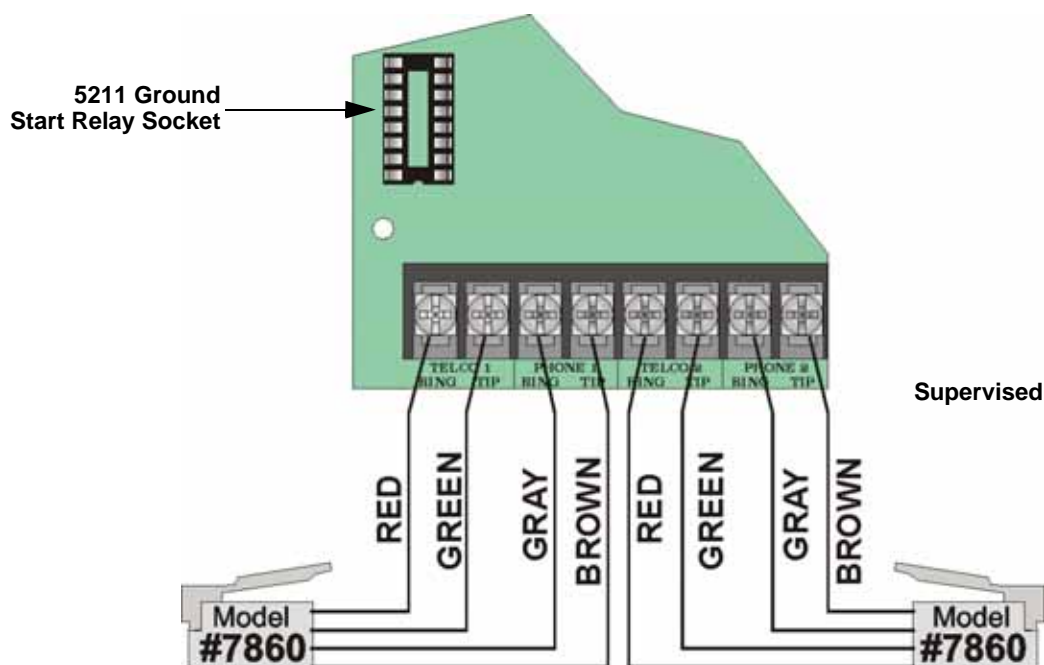

Figure 4-28 Connection of Telephone Lines
Connect the telephone lines as shown in Figure 4-28. The Model 7860 phone cord is available from Silent Knight for this purpose.
1. Install the 5211 on the ground relay socket as shown in Figure 4-28.